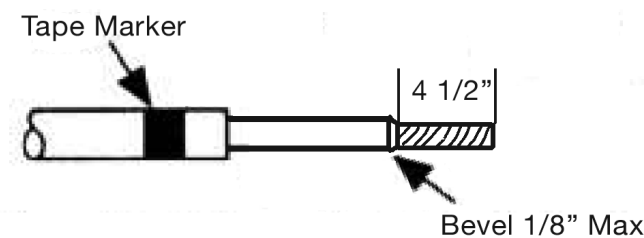

Fig. 5 - Insulation Cut Back
D. Remove insulation to expose 4-1/2" bare conductor. Cut squarely making sure not to cut or nick the conductor. (See Figure 5.)